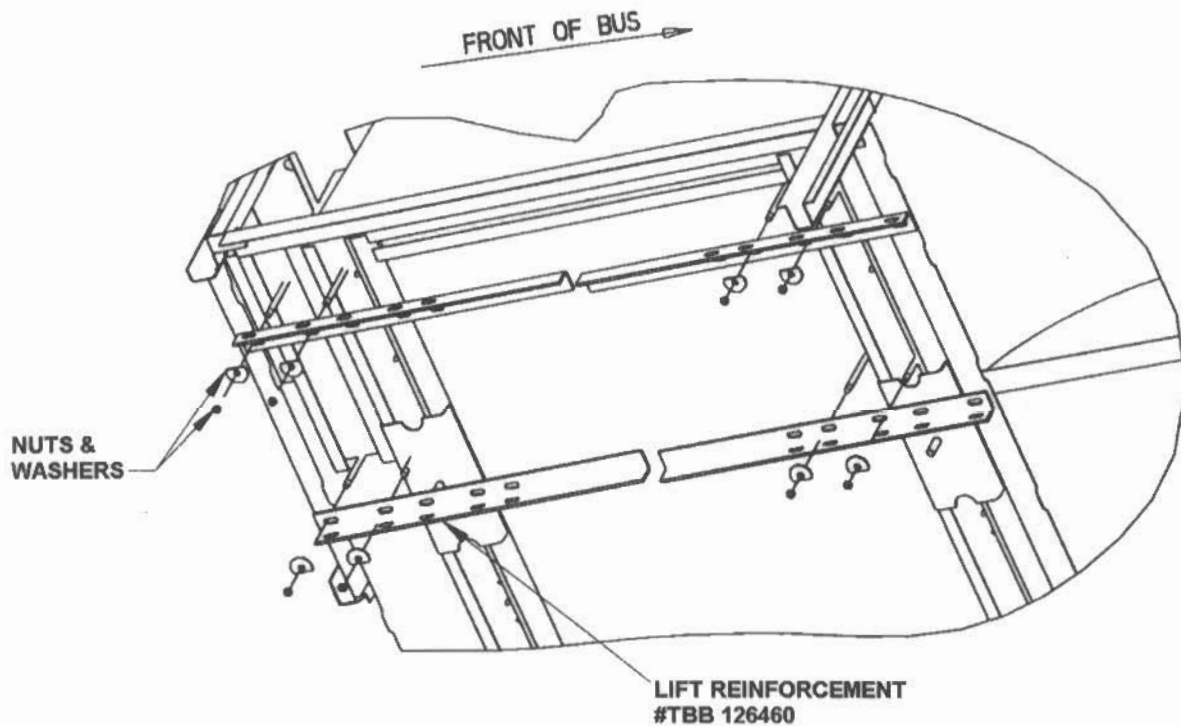
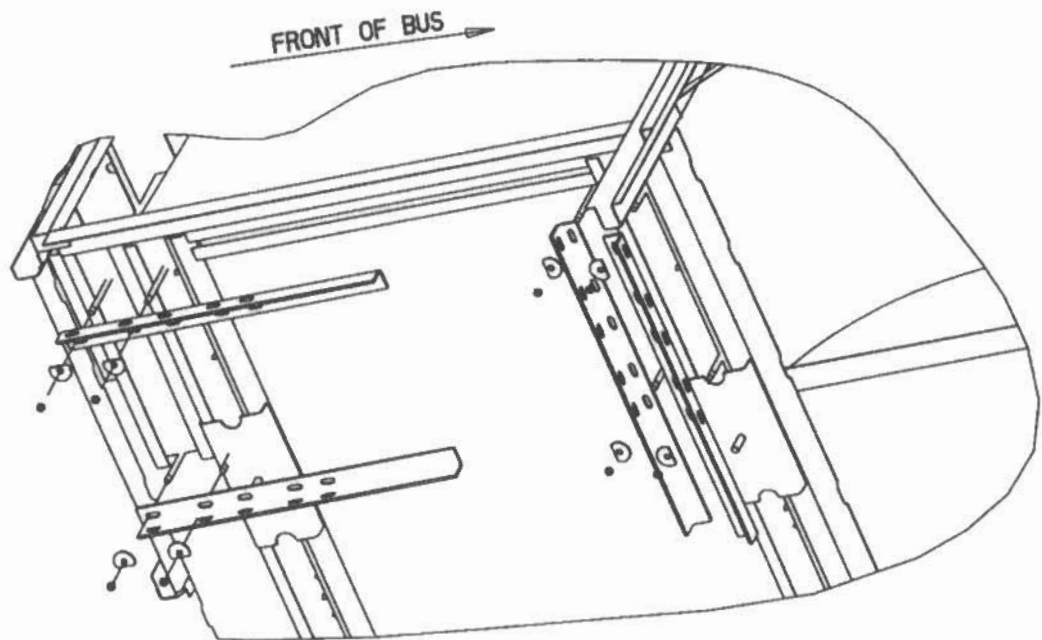

Figure 1
Figure 2
2. Remove eight (8) fasteners holding the platform down. Remove all nuts and washers and discard.
4. Install the four (4) Lift Reinforcements, part #TBB 126460 using eight (8) Nuts, #TBB 27120377 and Lock Washers, part #TBB 27120381, and Flat Washers, #TBB 27446363. **Fig 1**
Note: Fig. 1 is the primary installation. If this installation IS NOT possible, see Fig. 2.